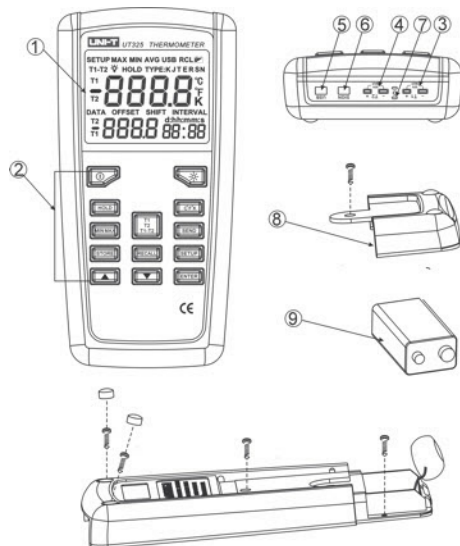

Figure 1. Components
- Figure 1 and Table 3 describe the components